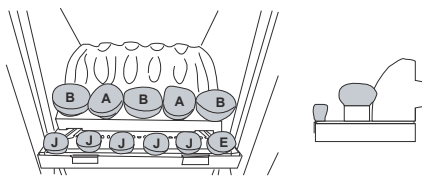

Figure 30
4. Insert the **J & E** pebbles centrally onto the spikes and place the **A & B** pebbles on the middle matrix ensuring the same orientation as shown in **Figure 30**.